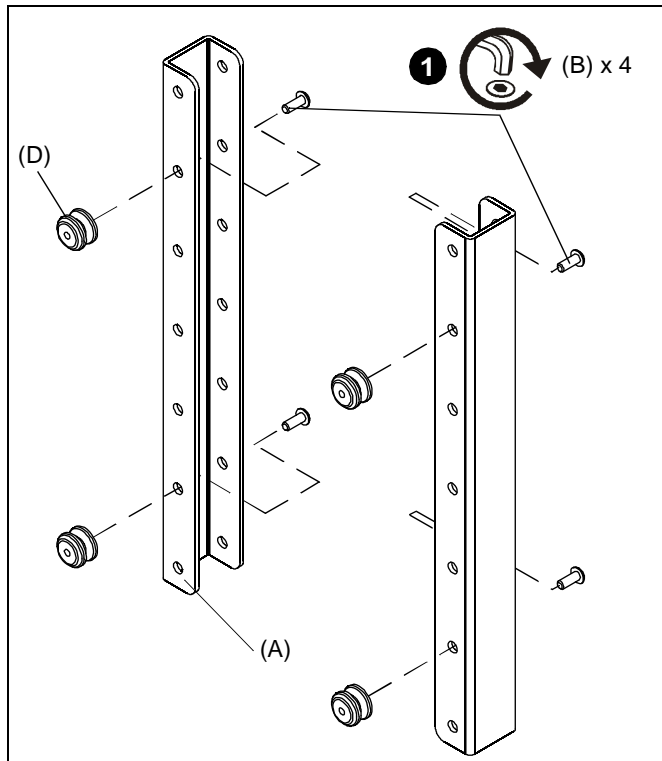

Figure 1
1. Attach mounting buttons (D) to interface brackets (A) using four 10-24 x 1/2" button head cap screws (B) and a 1/8" hex key (E). (See Figure 1)